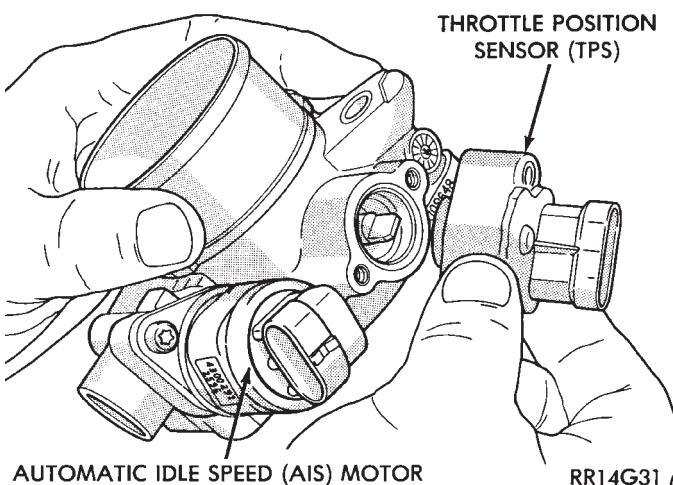

Fig. 4 Servicing Throttle Position Sensor
- (1) Disconnect negative cable from battery.
- (2) Remove electrical connector from throttle position sensor.
- (3) Remove throttle position sensor mounting screws (Fig. 4).
- (4) Lift throttle position sensor off throttle shaft.